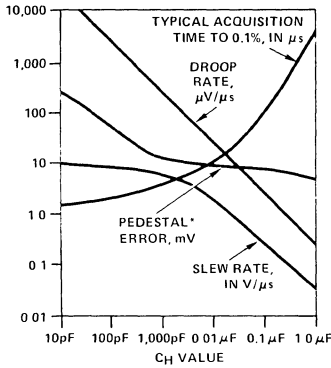

FIGURE 3
- B. The holding capacitor  $C_H$  is the only essential external component required for operation of the HI-5901.** The value selected determines droop rate, offset error and acquisition time according to curves shown in Fig. 3. Board layout should include a guard ring to prevent voltage-driven leakage at the capacitor terminal. See Fig. 5.